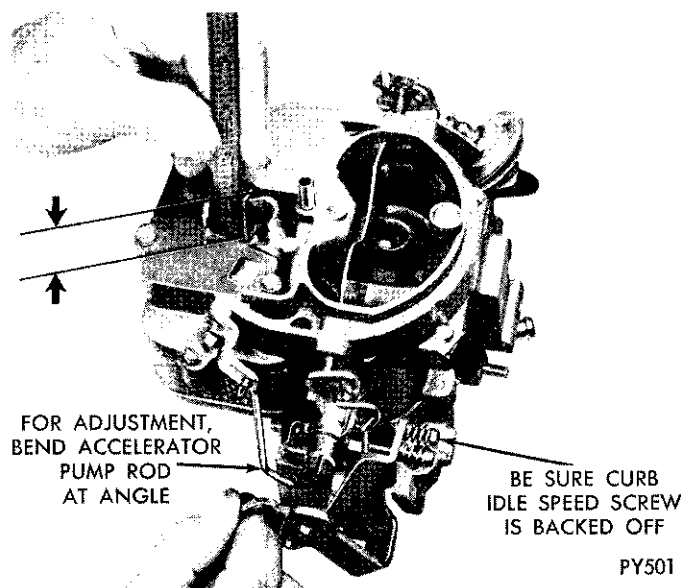

Fig. 11—Checking Accelerator Pump Setting
(1) Back off idle speed adjusting screw. Open choke valve so that fast idle cam allows throttle valves to be completely seated in bores. Be sure that pump connector rod is installed in outer hole of throttle lever.
(2) Close throttle valves tightly. Measure the distance between top of air horn and end of plunger shaft, (Fig. 11). This measurement should be 1 inch.
(3) To adjust pump travel, bend pump operating rod using Tool T-109-213, at lower angle of rod, until correct setting has been obtained.